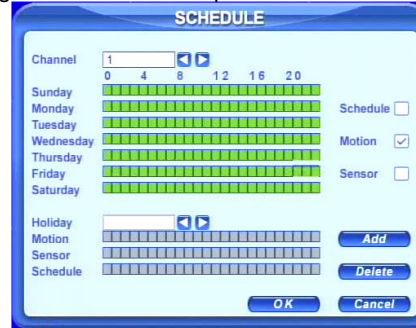

Fig 3.8 Schedule Setup
STEP1 Enter SCHEDULE configuration. Select Channel and Schedule; please see Fig 3.8 Schedule Setup.